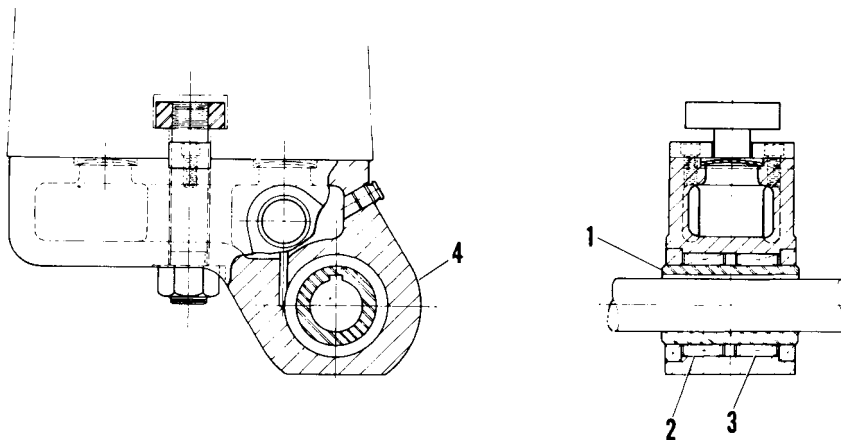

Figure 26. Removing Bearings From Style "B" Arbor Support
57. REMOVING BEARINGS FROM STYLE "B" ARBOR SUPPORT (figure 26)